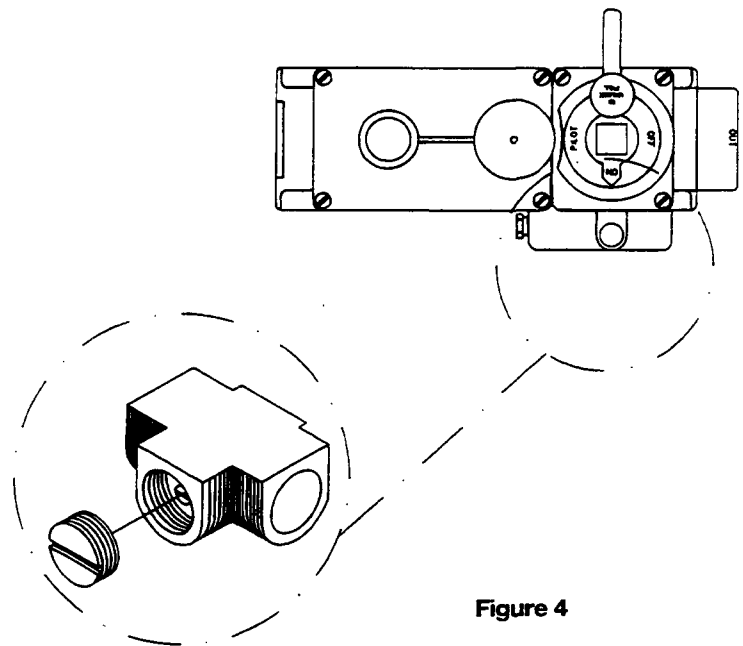

Figure 4
- Remove the pilot adjust cover screw located at the pilot gas outlet on safety valve. Refer to Figure 4.